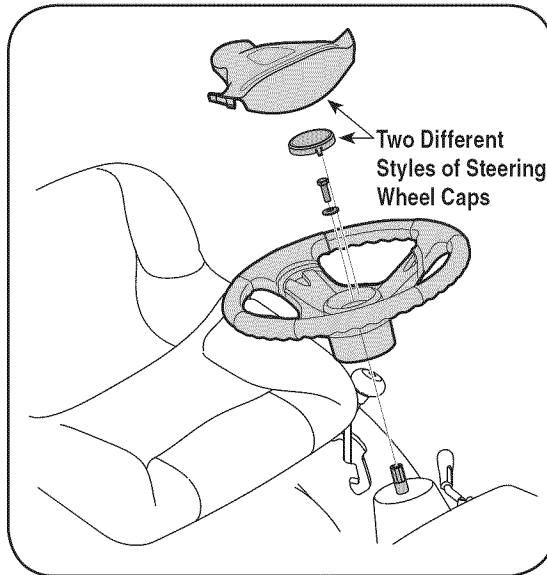

Figure 3-3
NOTE: There are two different styles of steering wheel cap. See Fig. 3-3. **Styles vary by model.**
2. Place the washer over the steering shaft and secure with the hex bolt. See Fig. 3-3.